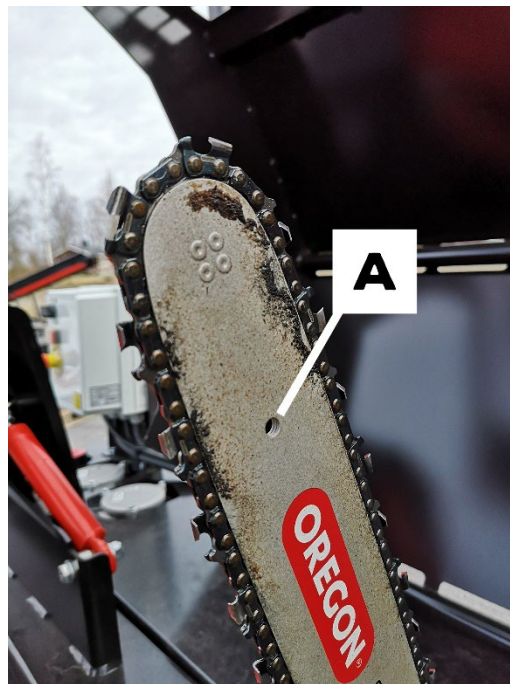

Figure 35
- 2 Clean the lubrication hole A that is shown in Fig. 35.